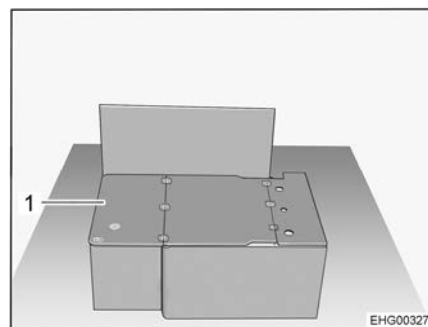

Fig. 39 Divan without cushions
- Fold the support board (Fig. 39,1) by 180° and set it down on the bench seat cover.